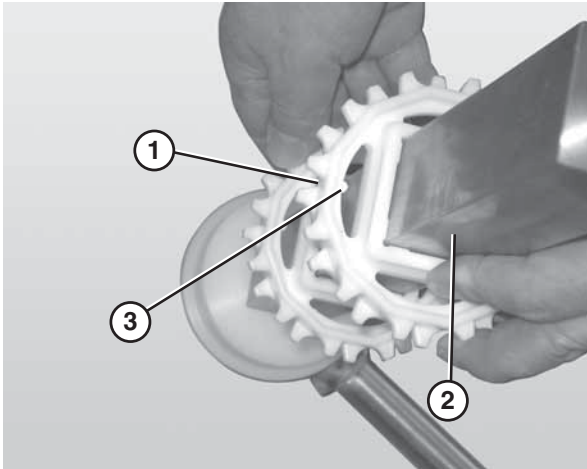

Figure 82
2. Slide the sprockets (**Figure 82, item 1**) onto the drive spindle (**Figure 82, item 2**). Make sure that all of the alignment marks (**Figure 82, item 3**) on the inside of the sprockets line up.